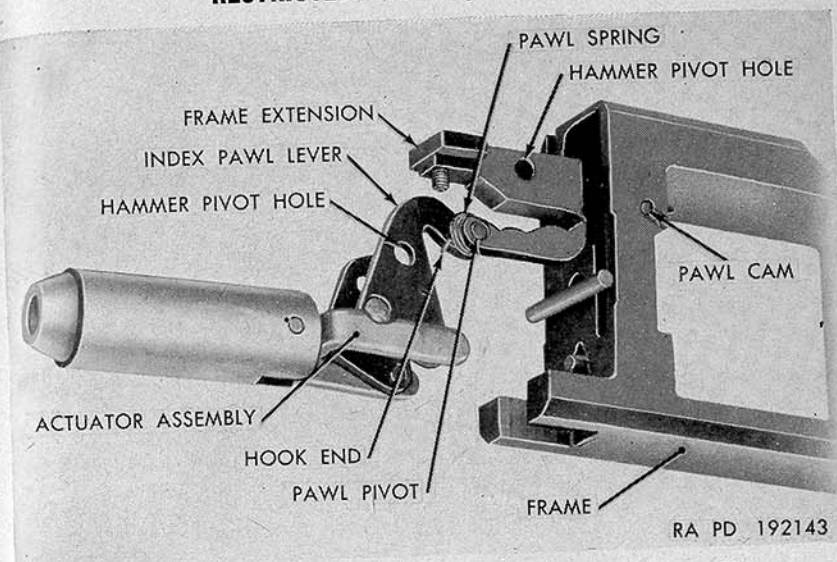

Figure 103. Installation of index pawl and actuator assembly.
- (6) Install the index pawl and spring on the pawl pivot of the actuator assembly (fig. 103). Position hook end of pawl spring under the index pawl liner. This will cause the pawl spring to rotate the index pawl. The index pawl will have to be held so that it is pointing forward for the rest of the assembly operation.
- (7) Slide the index pawl, with actuator assembly and spring, into the slot on the right-hand side of the frame. The pawl must be inserted below the pawl cam.
- (8) Align hammer pivot hole of index pawl lever with that in the frame extension.